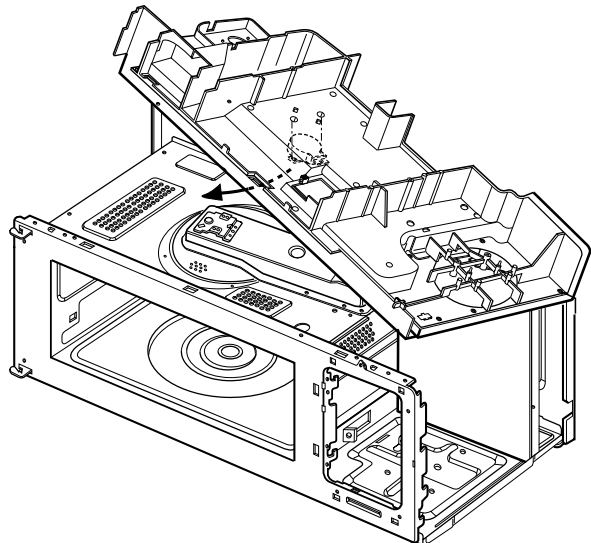

Figure 25
- (3) Lift the air duct and disconnect the leadwire from the stirrer fan motor. (Figure 25)
- (4) Remove the stirrer fan motor.